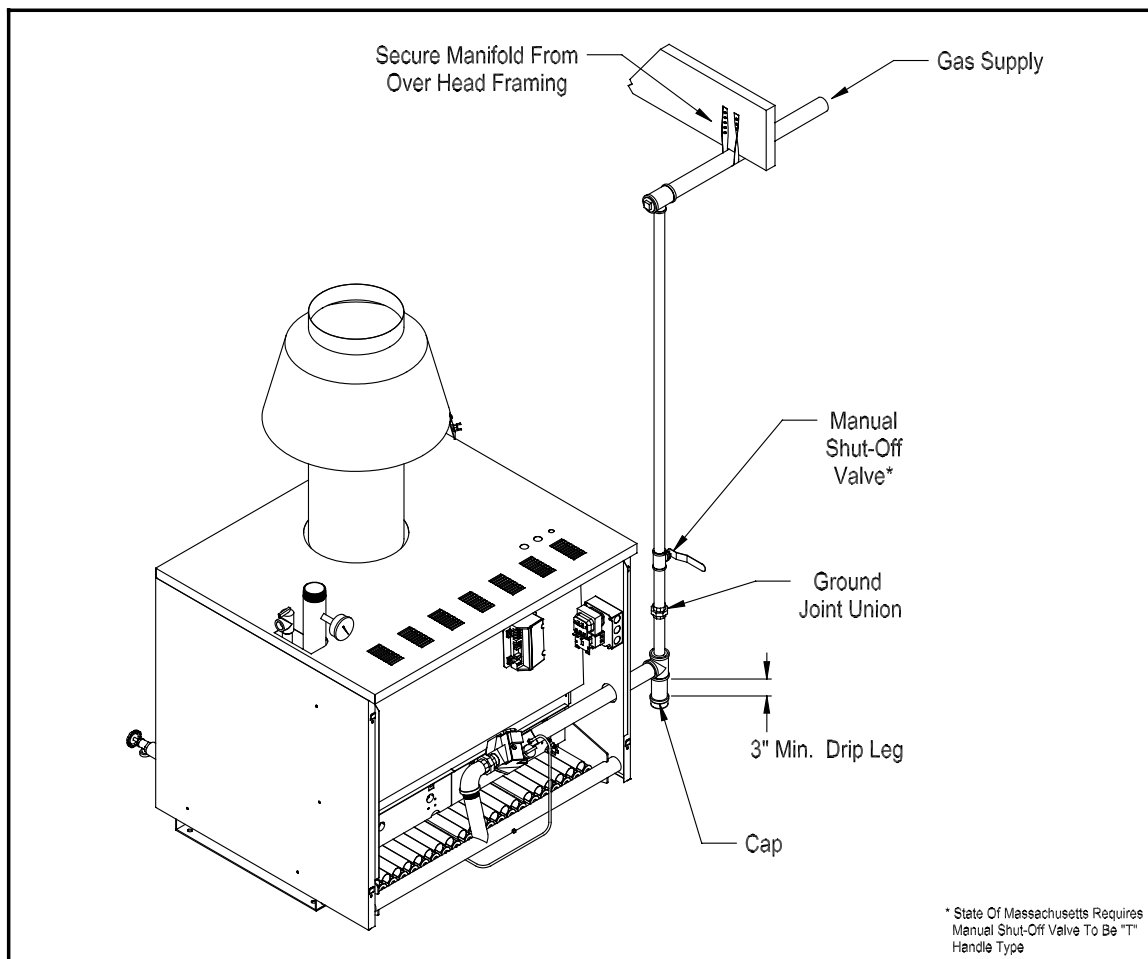

Figure 20: Gas Main Piping And Branch Connections To Boiler
- 2) Figure 20 shows the typical gas piping connection(s) to the Series 16 boiler. A sediment trap must be installed upstream of all gas controls. Install a manual shut-off valve and ground joint union as shown.